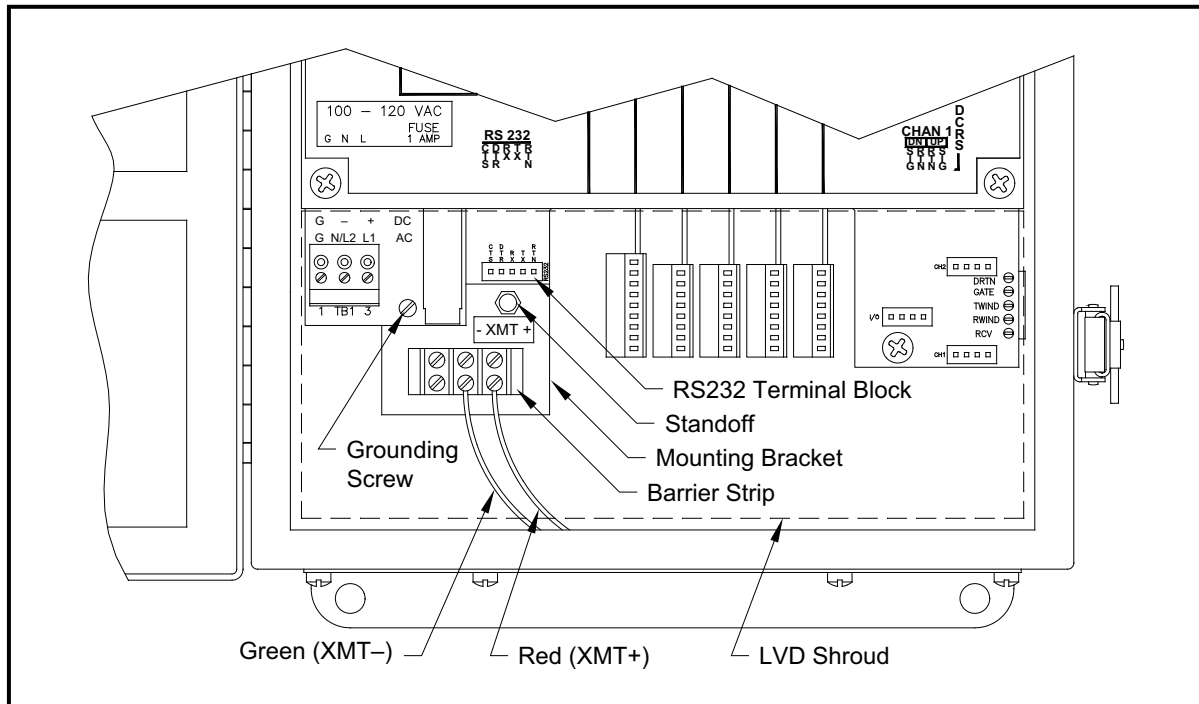

Figure 9: Interface Converter Mounting
A special bracket containing the serial interface converter and a three-terminal barrier strip is mounted inside the Model GS868, just below the RS232 terminal block (see *Figure 9* below). The standard **RS232** terminal block is wired to the input of the serial interface converter, and the RS485 output of the serial interface converter is wired to the barrier strip.
Standard factory wiring of the RS485 serial interface is configured for point-to-point wiring. That is, a single Model GS868 may be wired directly to a single personal computer. To connect the RS485 serial interface, refer to *Figure 9* on page 72 and complete the following steps:
3. Remove the serial interface converter *mounting bracket* by removing the standoff located just below the **RS232** terminal block and the grounding screw to its left (see to *Figure 9 on page 72*).